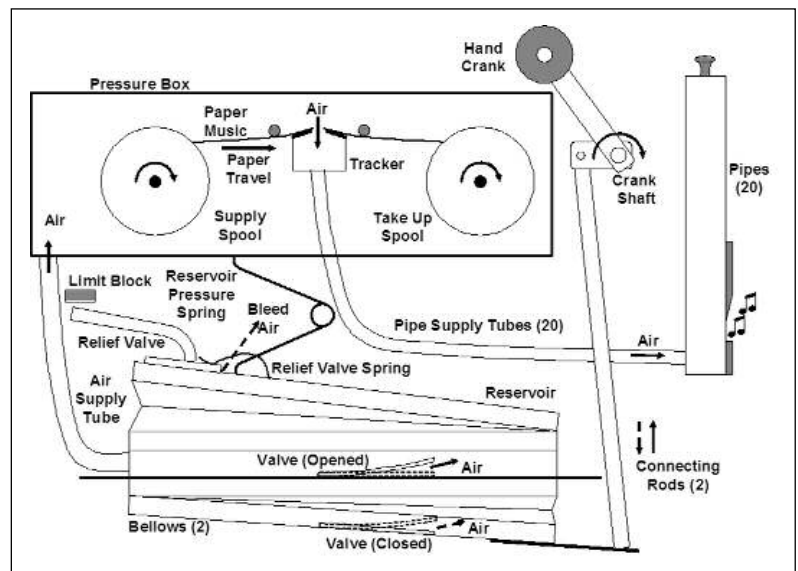

Figure 9. A schematic of the working John Smith Basic 20-Note organ.
**Figure 9** shows a schematic of the organ. The process starts when the hand crank is turned. The hand crank turns the crankshaft which moves the two connecting rods up and down in opposite directions to raise and lower the bellows. This provides for a continuous supply of air with one bellow feeding air into the reservoir and the other taking in a new supply of air. The flow is controlled by the flapper valves between the bellows and outside air and the reservoir and the bellows. Figure 9 shows the bellow on the upstroke with the reservoir valve open letting air into the reservoir and the bellow valve closed holding the air in the bellow. On the down stroke the valve positions are opposite, holding the air in the reservoir and letting new air into the bellow. There is a heavy spring that holds the top of the reservoir down to maintain the pressure in the reservoir. There is a relief valve and a limit block that will tip the relief valve and let air out of the reservoir if the pressure gets too high. This combination helps to maintain a relatively constant pressure. If you look inside of a band organ you will see a similar setup only on a much larger scale.